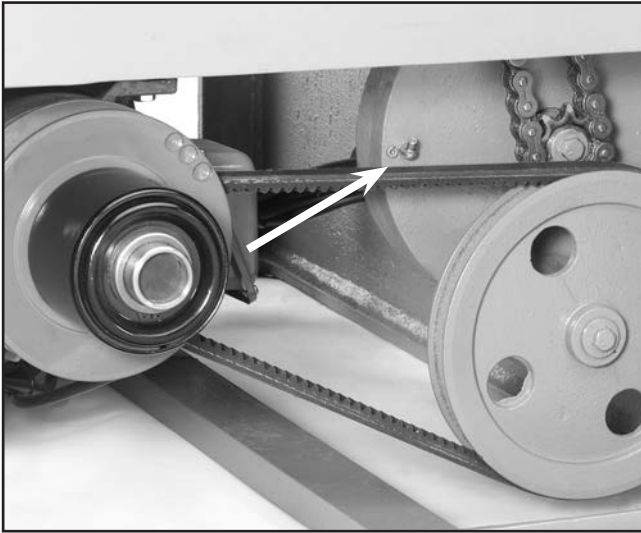

Figure 21. Transmission box grease fitting.
- 2. Transmission Box** — Lubricate after every 12 hours of continuous use. See **Figure 21** for location.